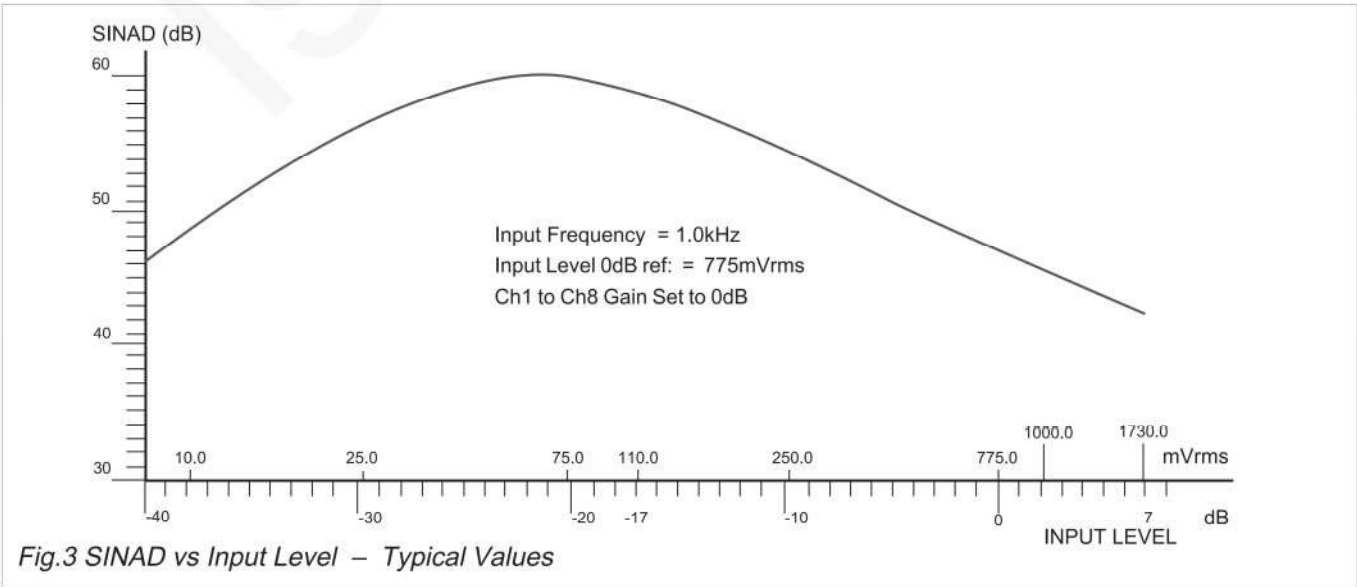

Fig.3 SINAD vs Input Level – Typical Values
- (i) Input signal amplitudes should be applied with due regard to Figure 3.